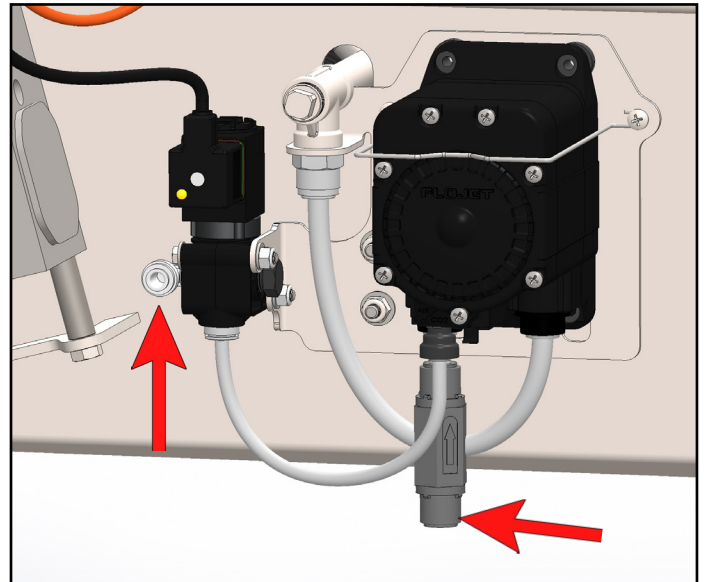

Fig. 30.1: Air and solution inlets
1. Connect compressed air (40 psi min.) to solenoid valve quick fitting inlet using 3/8" LDPE tubing or similar [Figure 30.1].
2. Connect solution source to check valve of pump inlet using 3/8" clear LDPE tubing (included) [Figure 30.1].